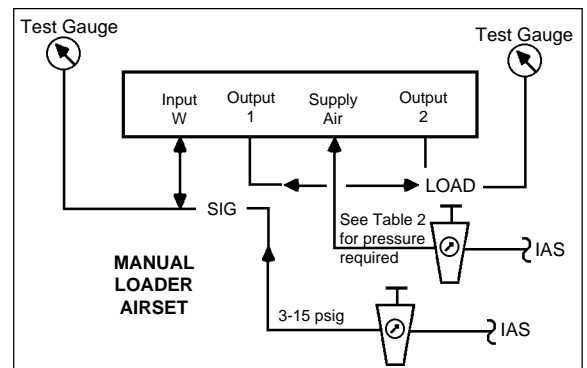

Figure 20
- Press the flapper lever (38) several times alternately to the left and right, so that the ball-and-socket mounted flappers (52) are aligned parallel to the nozzles (51).
- Press the flapper lever (38) to the left. Set the clearance between the nozzle (51) and the flapper (52) to 0.6 mm (0.024 in.) with the aid of a feeler gauge by turning the hexagonal adjuster (56) with 6 mm wrench. Secure the nut against further turning using sealing paint.
- Connect the positioner as shown in the test circuit in Figure 20. Provide an "IAS" of 60-100 psig.
- Press the flapper lever (38) to the left. If the output does not rise to the level of the supply air pressure, either leaks are present or the flapper (52) is not correctly aligned (repeat e. above).
- Hook the range spring (41) onto the flapper lever (38), and provide a mid-range (9 psig for 3-15 psig signal range, 6 for 3-9, 12 for 9-15, etc.) input "SIG" to port "Input W" (3-15 psig) using a manual loader.